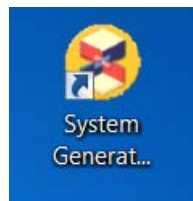

Figure 269: System Generator 2013.3 Icon
- a. On Windows use the desktop icon (Figure 269).